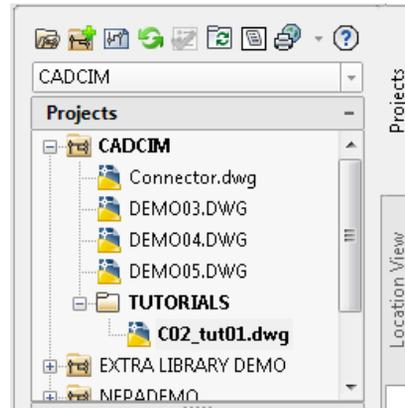

Figure 2-66 The *C02_tut01.dwg* moved to the **TUTORIALS** subfolder
3. Drag and drop the *C02_tut01.dwg* drawing created in Tutorial 1 on the **TUTORIALS** subfolder; the *C02_tut01.dwg* drawing is moved to the **TUTORIALS** subfolder; refer to Figure 2-66.